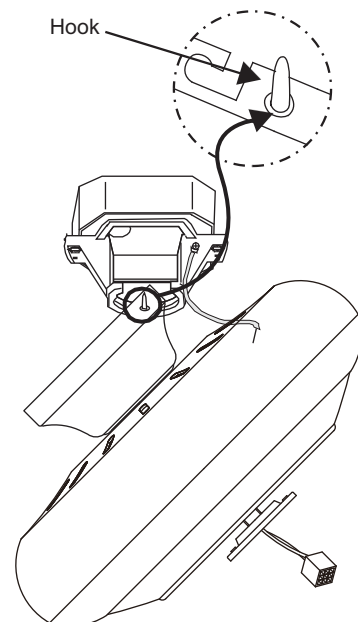

Figure 10
8. Hang the fan on the hook of the hanger bracket. Be certain that the canopy is fully locked into hook as shown in Fig. 10. This will allow you to make the electrical connections.